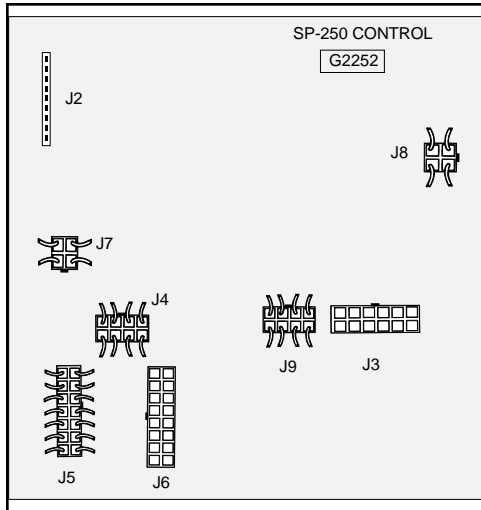

FIGURE F.5A - Control Board Molex Plug Locations for G2252 PC Control Board.
2. Disconnect Molex Plugs J3 and J6 from the G2252 Control Board or remove Plug J3 from G1992 Control Board (Code 9402 only) See Figures F.5A and F.5B.